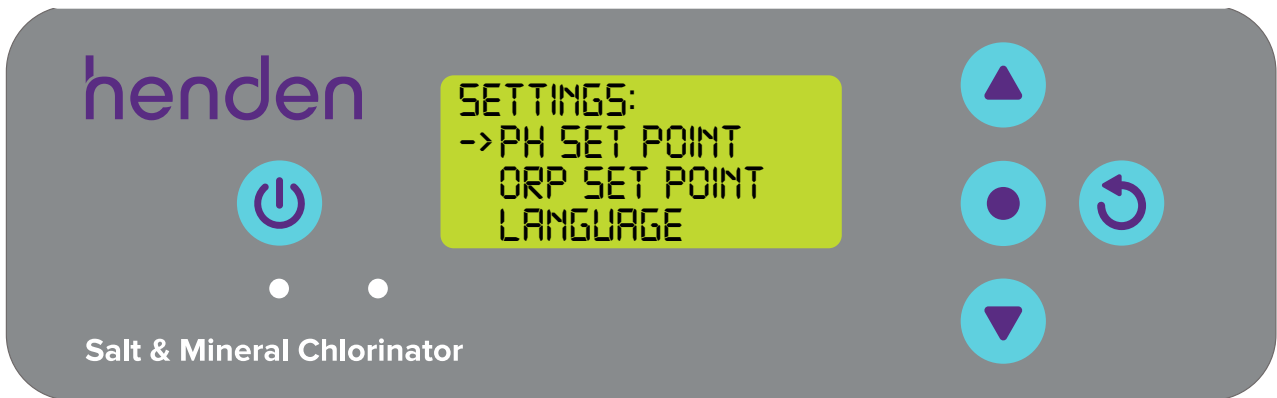

Figure 8.33
- Press the  **menu up/down** button to scroll down to ORP set point (Figure 8.33)